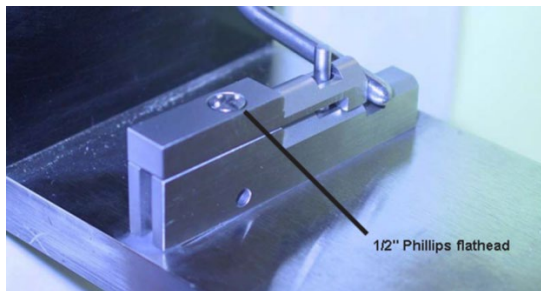

Figure 35: Crack Seal Option Installation with Adaptor for Normal Asphalt Beam BBR Operation
9. If necessary/desired, secure the beam support adapter (for asphalt beam testing) to the beam support using the 1/2" flathead Phillips screws provided. Otherwise, install the shorter 3/8" Phillips screws to the bottom beam support to prevent debris from plugging the hole. Refer to Figure 35.